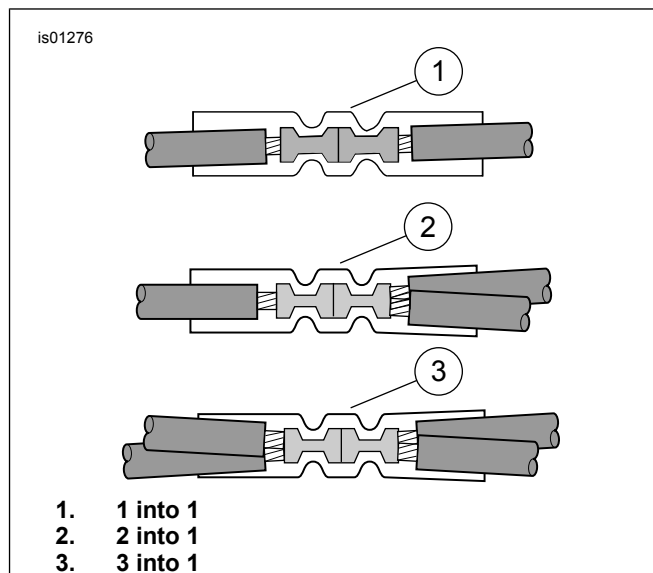

Figure 13. Splice Configurations
3. See Figure 13. Identify splice configuration required (1, 2, or 3).